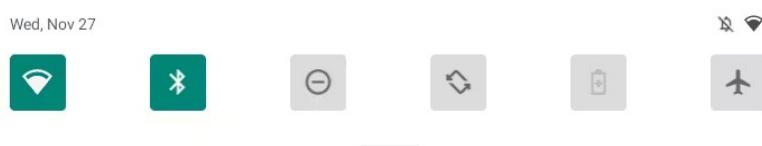

Fig. 20 Status box
- 1) Slide your finger down from the top of the screen, and a status box will appear, as in Fig. 20.
- 1) Slide down at the top of the screen to see the Wifi icon , as shown in Fig. 20;
- 1) Slide your finger down from the top of the screen, and a status box will appear, as in Fig. 20;